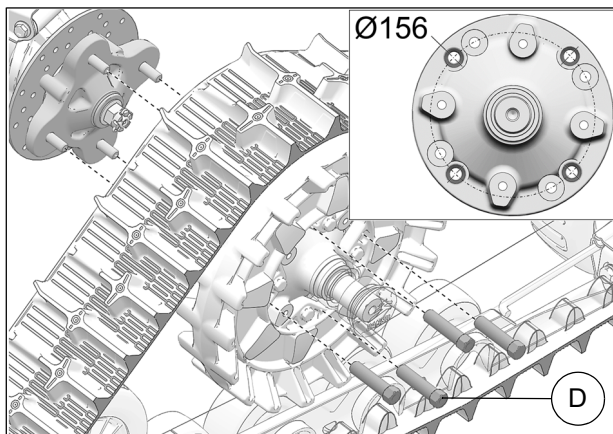

Fig. 20
8. Secure undercarriage to rear hub using the provided M12 lug nuts (D). Use bolt circle  $\varnothing 156$  mm. See Fig. 20